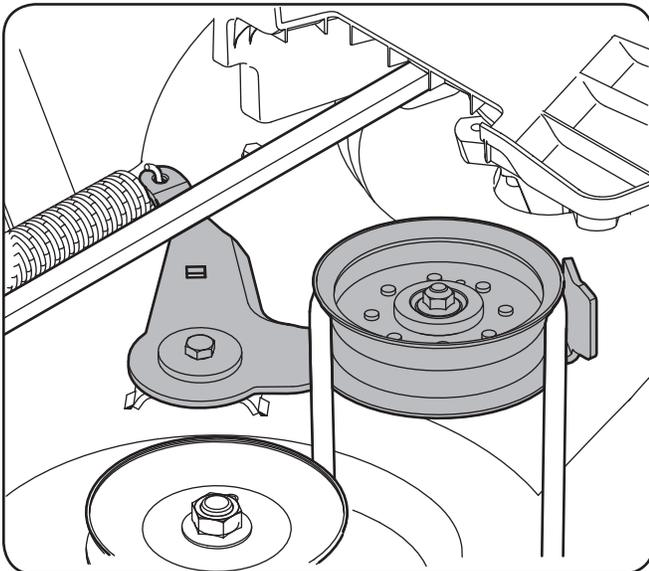

Figure 7-3
- Working on the right side of the tractor, insert a $\frac{3}{8}$ " drive ratchet wrench, set to *tighten*, into square hole found on the idler bracket. See Figure 7-3.
- Pivot the wrench forward to move the deck drive pulley forward. See Figure 7-3.